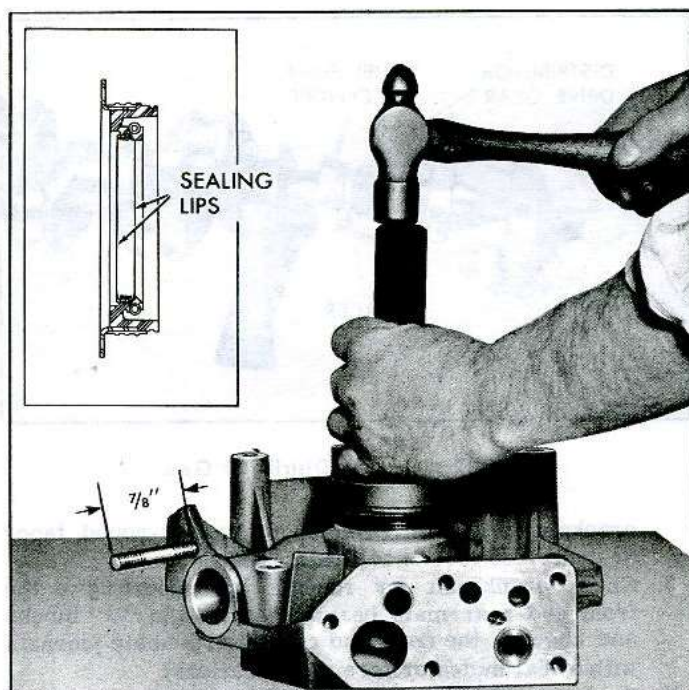

Fig. 114—Installing Rear Housing Seal
3. Lubricate seal outer surface (beaded area) with lubriplate or petrolatum and install with a suitable tool (fig. 114).
4. Install distributor holding stud to a height of 7/8", measured from distributor pad on engine rear housing (fig. 114).